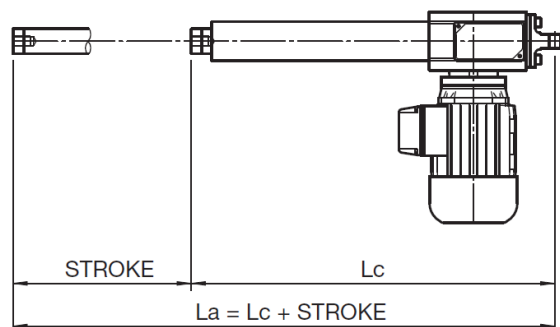

Figure 6.4 – Quote “Lc” and “La”
- Check if the extreme dimensions of the actuator “Lc” and “La” (see Fig. 6.4) are compatible with extreme positions of the plant component that has to be moved.
- Before to start relubrication, put the actuator in extended position (La – see Fig. 6.4)